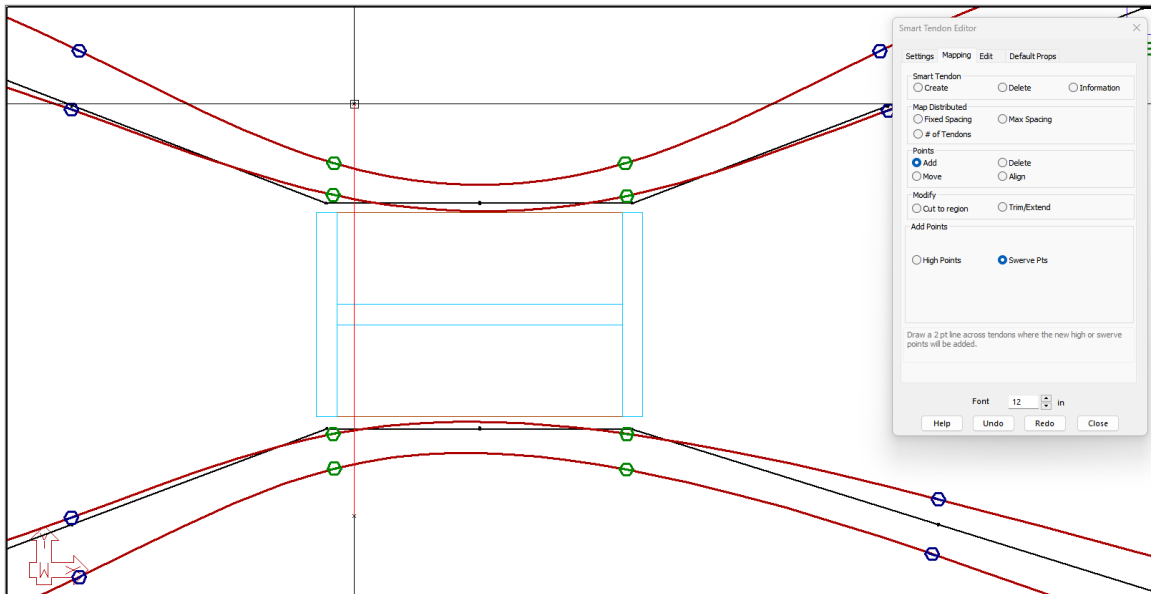

FIGURE 9-65
- Next, we can clean up the tendons that are swerving close to the openings using swerve points. Draw your first construction line to add swerve points near the high points on the left side of this span, for all four tendons. The construction line should be drawn as shown in **FIGURE 9-65**.